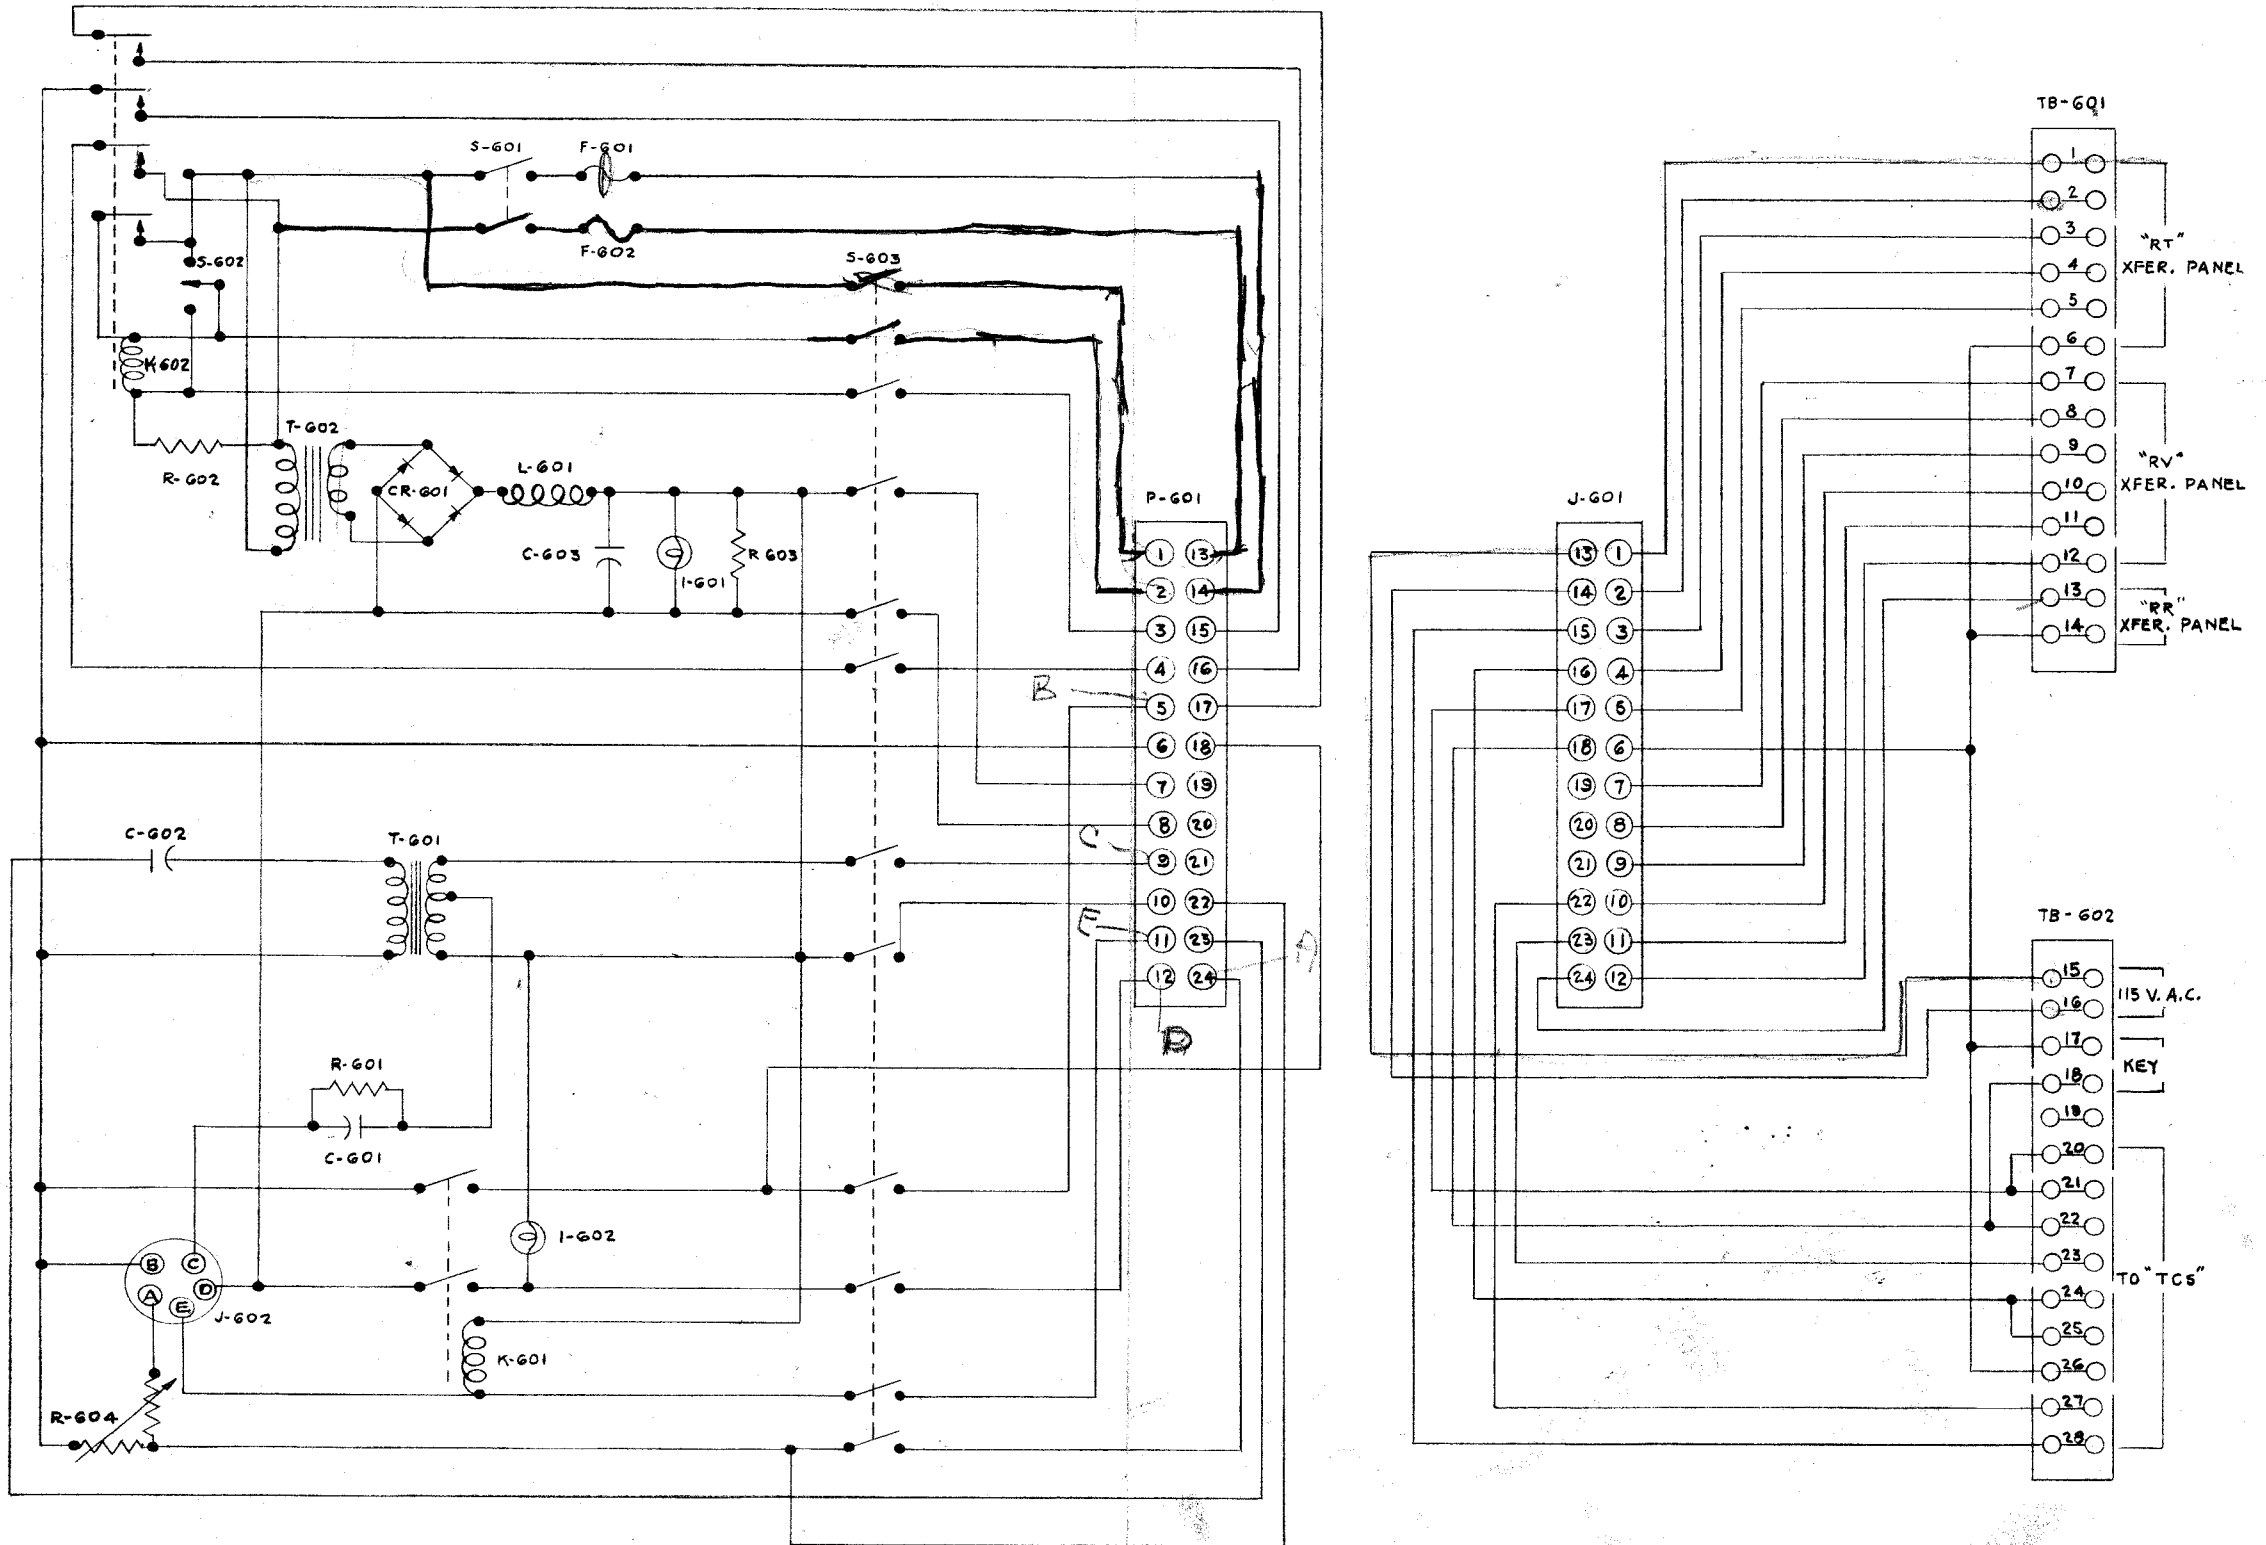

Figure 4-2. Adapter, Control MX-1743/SRC Schematic Wiring Diagram
Removal of the chassis and panel can be accomplished by removing the fourteen (14) screws from the front panel and slide the panel forward. Tracing the circuit by means of the Schematic Wiring Diagram, Figure 4-2, and pictorial diagrams of the chassis,